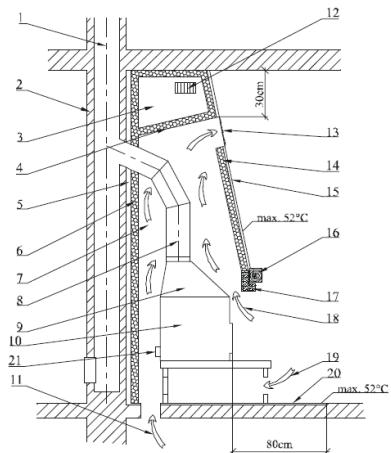

Figure 2
5. The warm conventional air outlet must be at least 30cm below the ceiling (figure 2).
6. An inflammable ceiling construction must be present above the conventional warm air outlet. Its temperature must not exceed 85deg C. Thus, the lower ceiling must be insulated from the effects of heat coming from the fireplace by a barrier and at least one not fully closeable grated opening (figure 2)